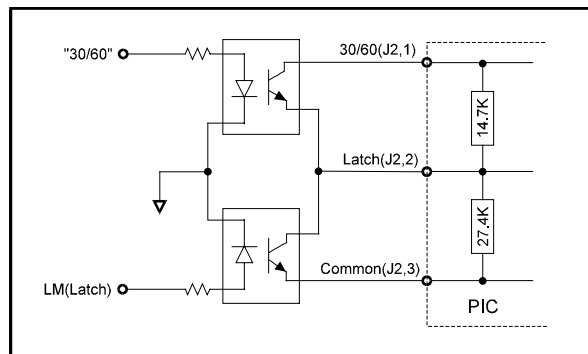

Figure 4-2: "30/60" and LM Remote Control
This is the input for selecting the Hall signal format. The default (pin J2/1 open) is 60°. Shorting pin J2/1 to pin J2/2 (LM) changes the selected Hall format to 30°. For permanent selection, use a simple short; for remote selection, use the scheme shown in Figure 4-2.